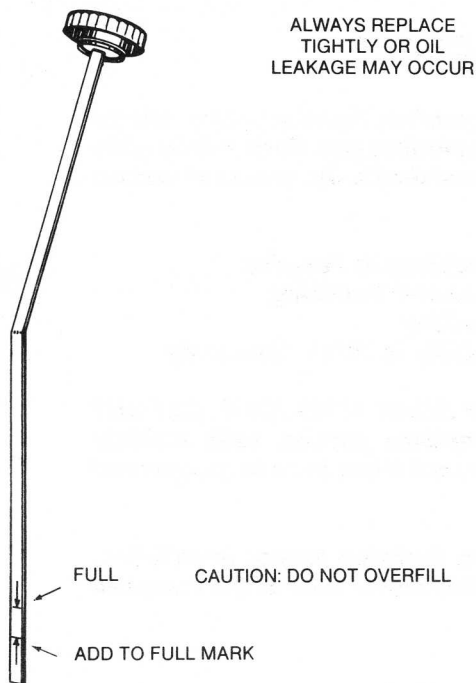

FIGURE 1. CRANKCASE OIL FILL
4. Check crankcase oil level with the engine off. If engine has been run, allow a minimum of 10 minutes for the oil to drain down before checking. If oil level is at or below ADD mark on dipstick (Figure 1), add sufficient oil of the proper viscosity as specified in *ENGINE SET-UP* to bring oil level to the FULL mark. Do not operate engine with oil level below the ADD mark or above the FULL mark.